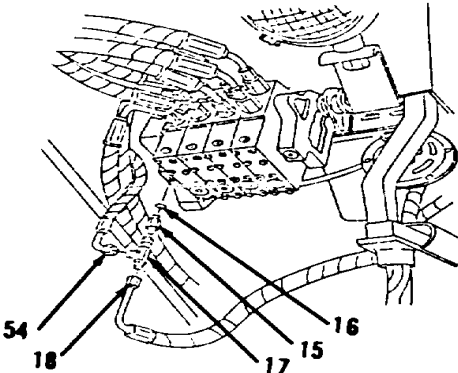

Figure 10-159.
- 17. Install hose assembly (18) to elbow (19).
- 18. Connect hose assemblies (54 and 18) to tee (17, Figure 10-159).
- 19. Install new preformed packing (16) and connector (15).
- 20. Connect tee (17) to connector (15).